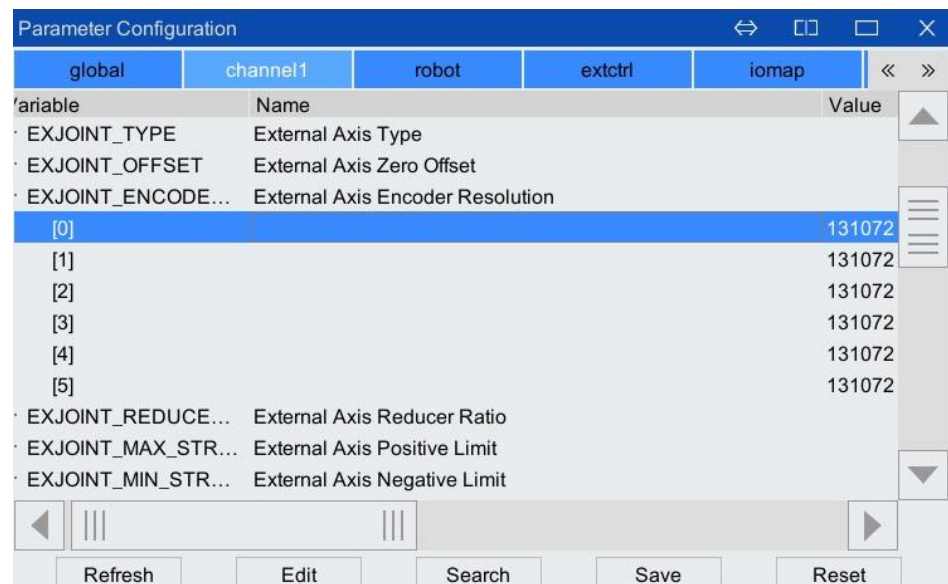

Figure 6-17 External axis type (EXJOINT_TYPE) parameter configuration interface
Step1. Select [System/Parameter Configuration/Channel] in the upper right corner of the teach pendant main interface, click [+] on the left side of the [EXJOINT_ENCODER_RESO] parameter, and in the expanded sub-items, you can see that the value of the [0] sub-item is "131072". As shown in Figure 6-17.